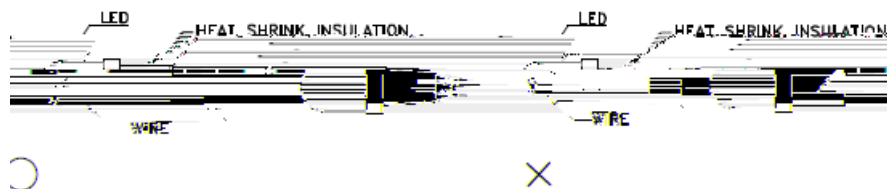

Figure 2
2. When soldering wire to the LED, use individual heat-shrink tubing to insulate the exposed leads to prevent accidental contact short-circuit (Fig.2)